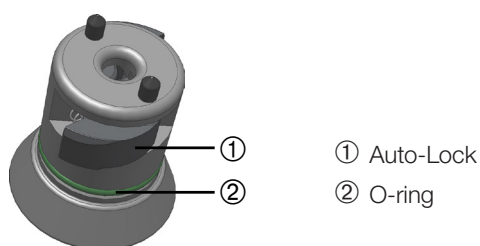

Figure 2-11: Auto-Lock on the drive shaft
- Inspect the Auto-Lock and O-ring (Figure 2-11); both must be clean and undamaged.